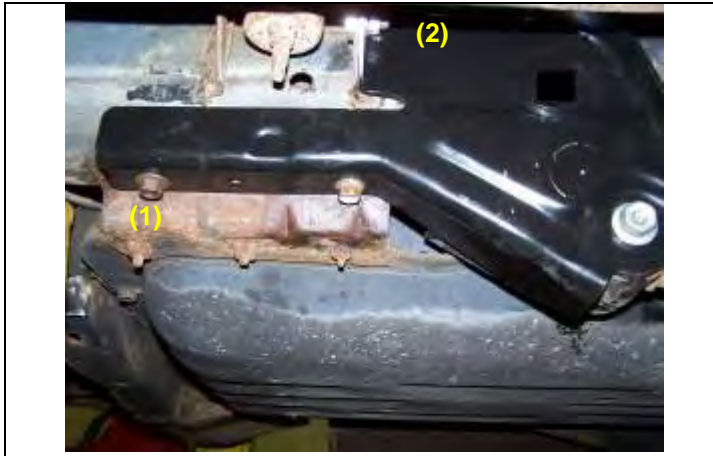

Figure 28 – Driver Side Temporary Installation
1. Remove the following components as per the service manual (See Figure 28):
5. Temporarily install both type “C” reinforcement brackets using the original lower link mounting nuts, “C” clamps, new body mount studs and nuts. See Figure 28.